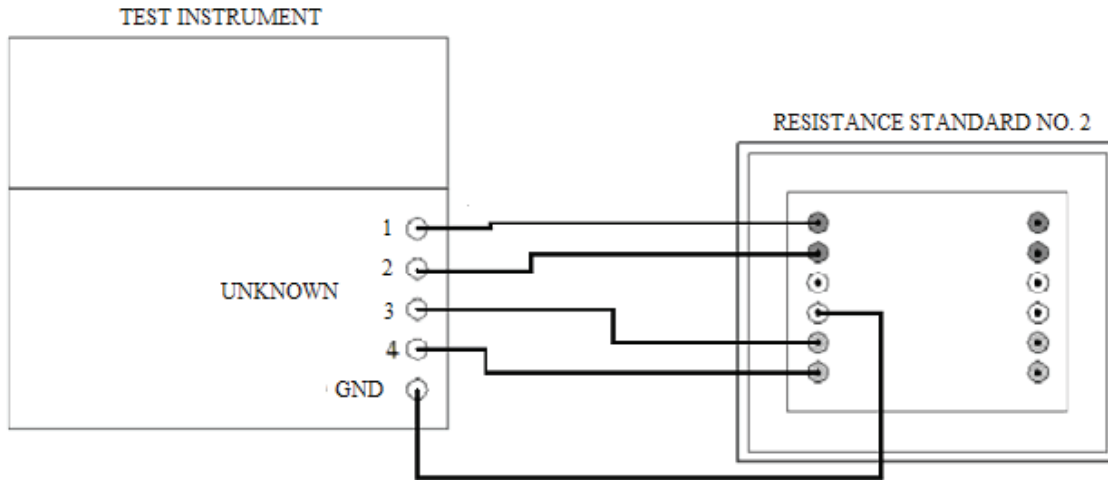

Figure 8. Multiplier - equipment setup.
- (1) Position controls as listed in (a) through (d) below:
- (d) Resistance decade dials to 000099.9 (TEN) (00).
- (2) Connect equipment as shown in figure 8.